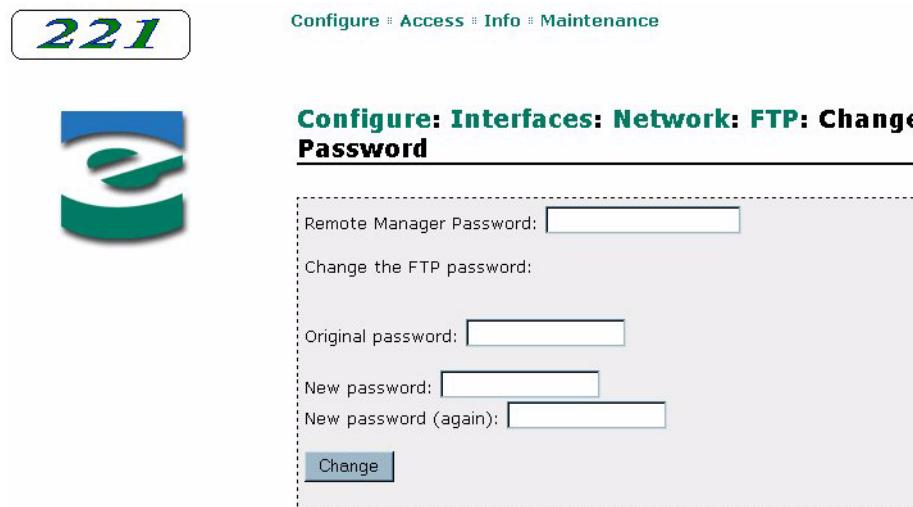

Figure 6-9 Remote management utility – Change FTP Password page
5. Click on Change the FTP password. A page similar to Figure 6-9 appears.